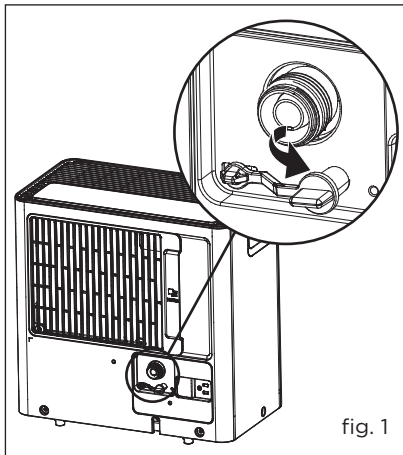

fig. 1
- b. Remove the water plug from the back drain outlet of the unit (fig.1)